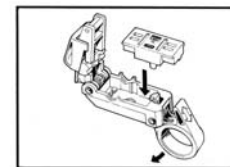

Figure 19
**C.** Installation of adjustment gauge. The gauge is marked with different cable types. Install gauge so that the markings, which correspond to the cable type to be stripped are above the adjustment screws (Fig. 19). Close the tool.